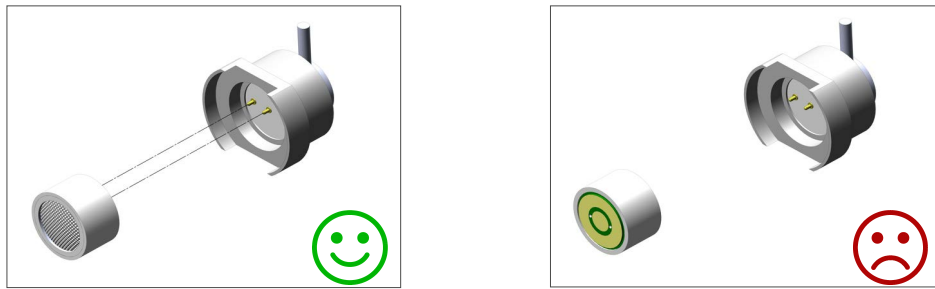

Figure 5. Aligning your sensor
- Remove the sensor from its packaging, remove the shorting flags and immediately place in the top sensor housing with the gold contact plate facing towards two gold contact pins in the top sensor housing as shown in Figure 5.